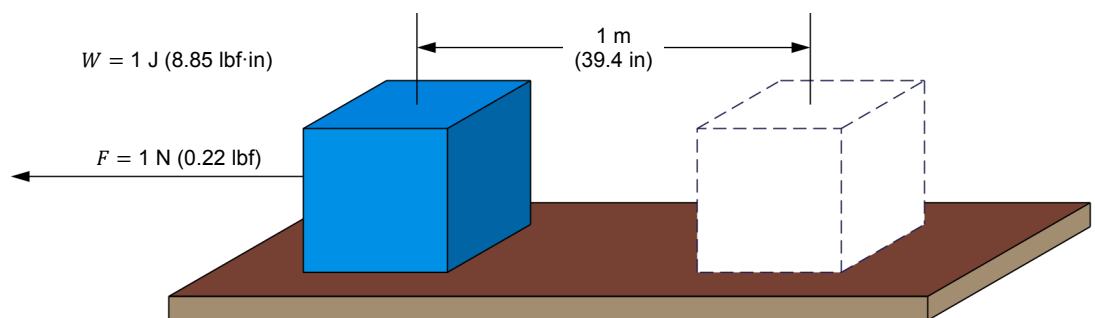
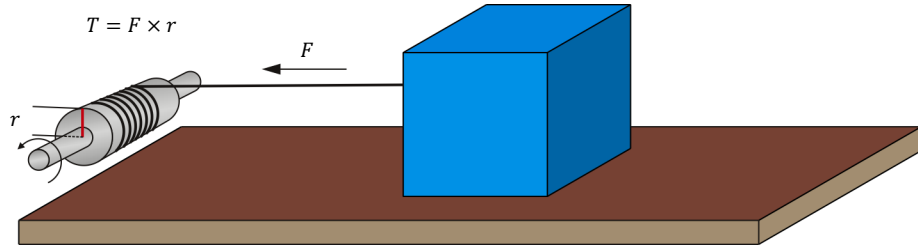

Figure 1. Work required to move a block.
Figure 2. Moving a block using a pulley.
Figure 1 shows the example of a block that is moved over a distance d of 1 m (39.4 in) by a force F of 1 N (0.22 lbf). Using Equation (1), it can be calculated that a mechanical work W of 1 J (8.85 lbf-in) has been done.
Consider now that the block in Figure 1 is moved over the same distance using a pulley that has a radius r , as shown in Figure 2.